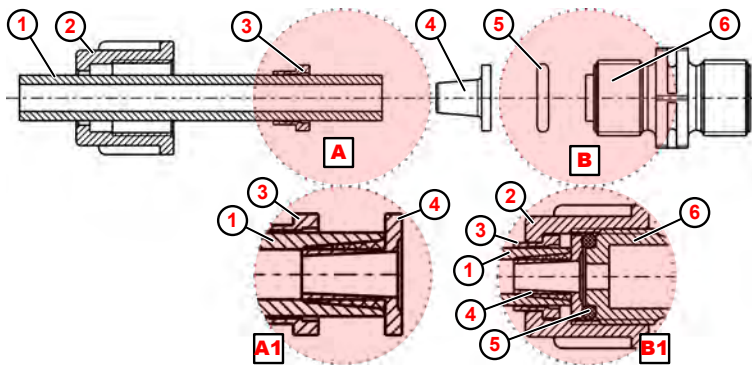

Fig. 5: Pipe-to-hose connection with tapered part
1. ➤ Cut off the hose with a straight cut ( Fig. 5 , ① ).
2. ➤ Slide the union nut ② over the hose ① .
3. ➤ Slide the clamp ③ over the hose ① .
4. ➤ Slide the hose ① onto the tapered part ④ up to the stop collar (for details, Ⓐ1 ).
5. ➤ Slide the tensioning piece ③ towards the tapered part ④ until you feel resistance.
6. ➤ Place the o-ring ⑤ in the groove of the suction or pressure valve ⑥ .
7. ➤ Tighten the union nut ② (for details, see Ⓑ1 ).